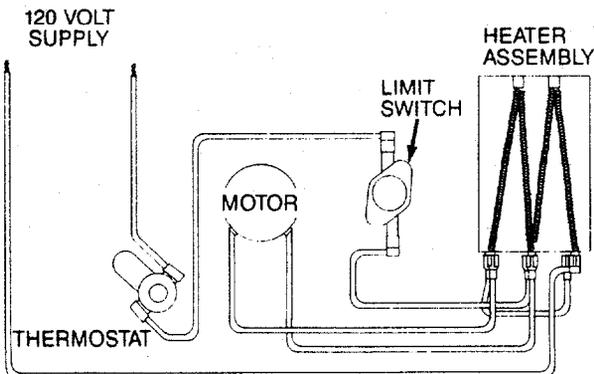

Figure 4 — Wiring Diagram for Models 2E434A, 2E708A & 2E873A
3. Connect service leads to heater (see Figure 4 or 5). Make sure all wiring conforms to National Electrical Code as well as all applicable local codes.